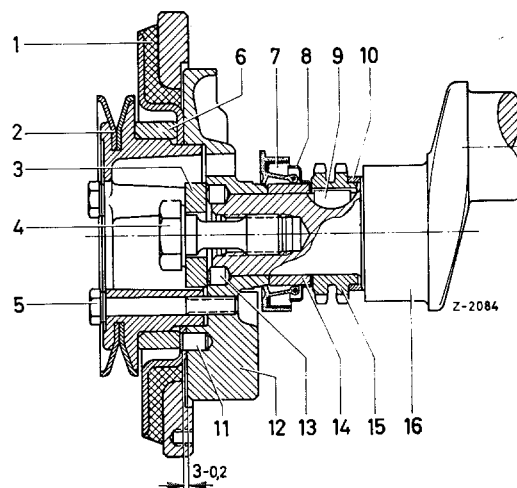

Fig. 03-10/2
2. Unscrew the three hexagon screws (5) and
remove the vee-pulley (2) with the forced-on spacer ring (6) and the vibration damper (1) (Fig. 03-10/2).
3. Unscrew the stretch screw (4) with washer (3) from the crankshaft and pull the counterweight (12) off the crankshaft using Puller Part No. 112 589 07 33 00.